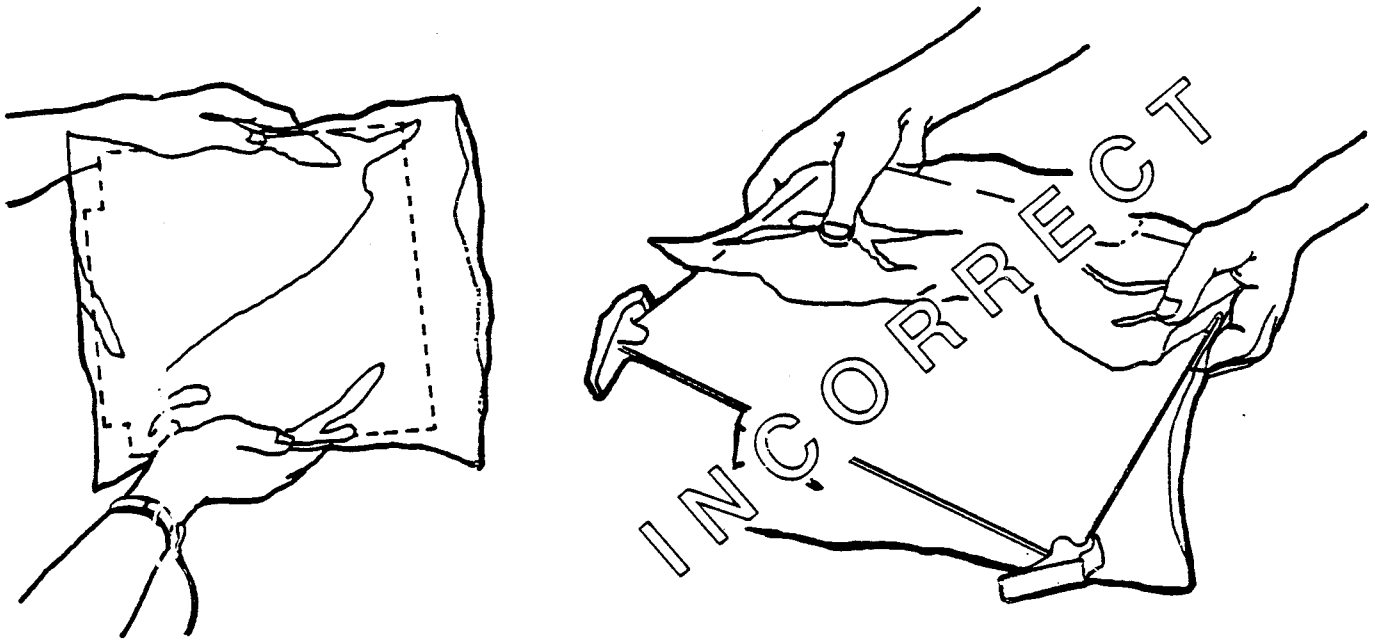

Figure 5-4 HANDLING PCBs
5.02 All static-sensitive PCBs are shipped in static-free bags and should be handled only while protected (Figure 5-4).